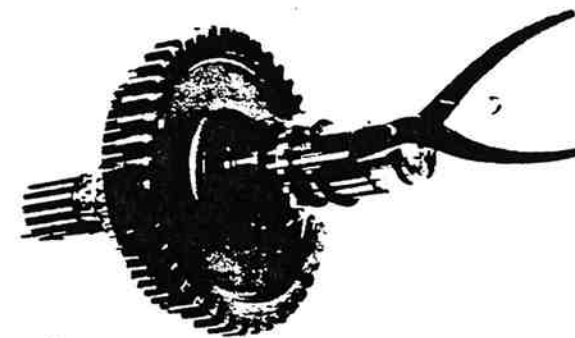

Figure 13-55. Retaining Ring Removal.
9. Remove the long key retaining snap ring from slot near rear of mainshaft (figure 13-55).